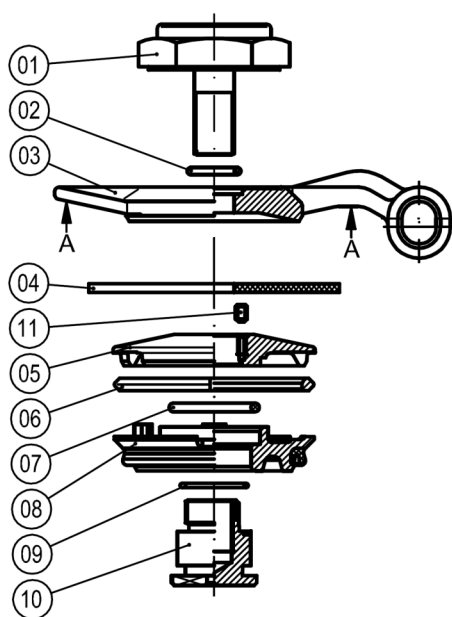

Fig. 26: Valve disk
1. ➤ Insert the O-ring (Fig. 26/09) in the groove of the guide pin (Fig. 26/10).
2. ➤ Insert the guide ring (Fig. 26/08) on the guide pin (Fig. 26/10).
3. ➤ Insert the O-ring (Fig. 26/07) in the guide ring (Fig. 26/08) and pull the O-ring over the guide pin (Fig. 26/10).
The O-ring (Fig. 26/07) must be able to slide between the guide pin (Fig. 26/10) and the guide ring (Fig. 26/08). Make sure the O-ring is not damaged.
4. ➤ Insert the spring washer (Fig. 26/06) on the guide ring (Fig. 26/08).
***i** Make sure that the 3 studs of the guide ring (Fig. 26/08) slide/engage in the intended groove of the pressure ring (Fig. 26/05). Replace the spring washer (Fig. 26/06) during annual servicing.*
5. ➤ Screw the guide pin (Fig. 26/10) into the pressure ring (Fig. 26/05) so that it is flush, and turn it until the M4 internal thread has been aligned ensuring the threaded pin (Fig. 26/11) can be screwed in.
6. ➤ Insert the O-ring (Fig. 26/02) on the buffer stop (Fig. 26/01), insert the buffer stop in the valve disk, position the seal (Fig. 26/04) between the pressure ring (Fig. 26/05) and the valve disk (Fig. 26/03).
8. ➤ Check the sealing unit by pressing the guide ring (Fig. 26/08) against the valve disk (Fig. 26/03). If the part is locked (spring washer Fig. Fig. 26/6 is on pressure ring Fig. Fig. 26/5), the lock unit must be unlocked again by pulling off the spring washer (Fig. 26/06) from the pressure washer (Fig. 26/05).